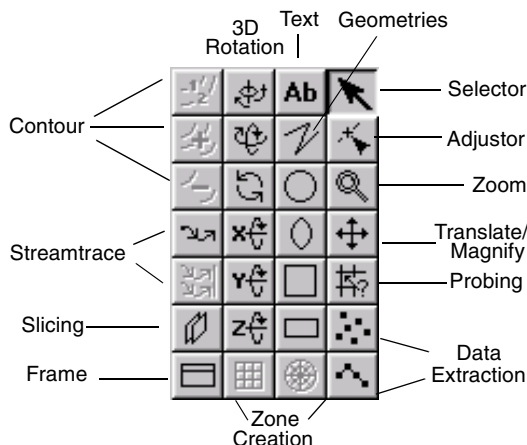

Figure 1-7. Sidebar tools and mouse modes.
1.2.2.7. Tool Buttons. Each of the tools represented by a button is a mouse mode, specifying the behavior of the pointer anywhere in the workspace. There are 28 modes in 12 categories, as shown in Figure 1-7.